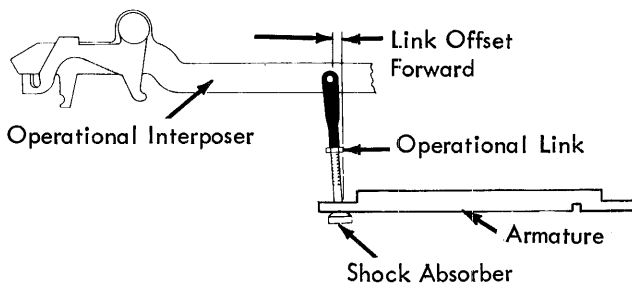

FIGURE 171. Front To Rear
- Front to Rear - so that the armature link holes are slightly to the rear of the interposer link holes (Fig. 171).